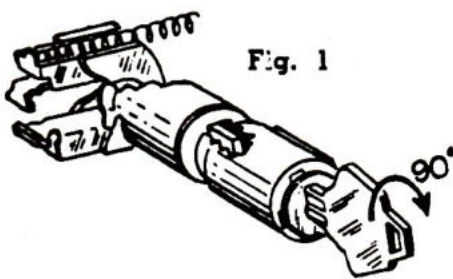

Fig. 1
1. Insert key and turn 90 degrees clockwise. (Fig. 1)